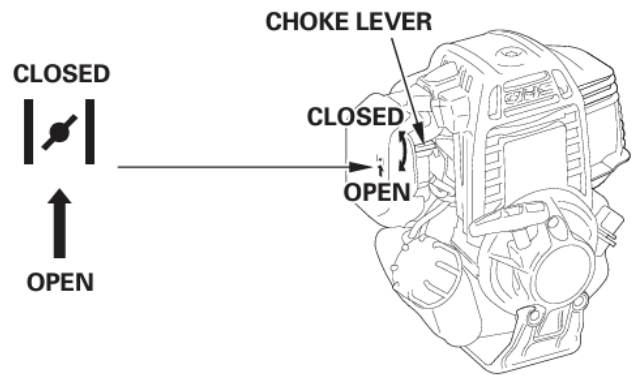

Figure 1
5.2 To start a cold engine, move the choke lever (Figure 1) to the CLOSED position.